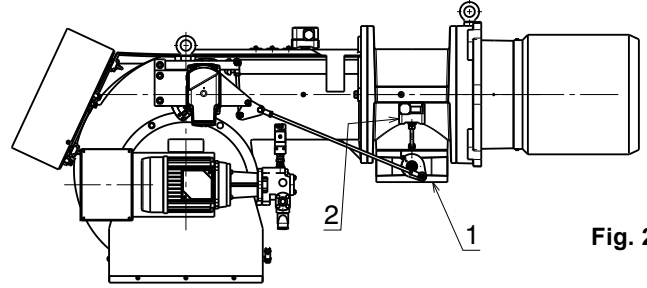

Fig. 27
Gas pressure measured at test point 2)(Fig. 27), with:
Pressure drop at gas butterfly valve 1)(Fig. 27) with maximum opening: 90°.
- subtract the combustion chamber pressure from the gas pressure measured at test point 2) (Fig. 27).
$$\begin{aligned} \text{Gas pressure at test point 2)(Fig. 27)} &= 32.9 \text{ mbar} \\ \text{Pressure in combustion chamber} &= 5 \text{ mbar} \\ 32.9 - 5 &= 27.9 \text{ mbar} \end{aligned}$$
To calculate the required gas pressure at test point 2) (Fig. 27), set the maximum modulating output required from the burner operation:
- Read, on the right (column 1), the pressure at the test point 2)(Fig. 27).
pressure required at test point 2)(Fig. 27).